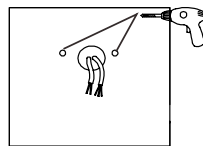

FIGURE 7
1. Drill holes on the wall as shown (FIG 7)